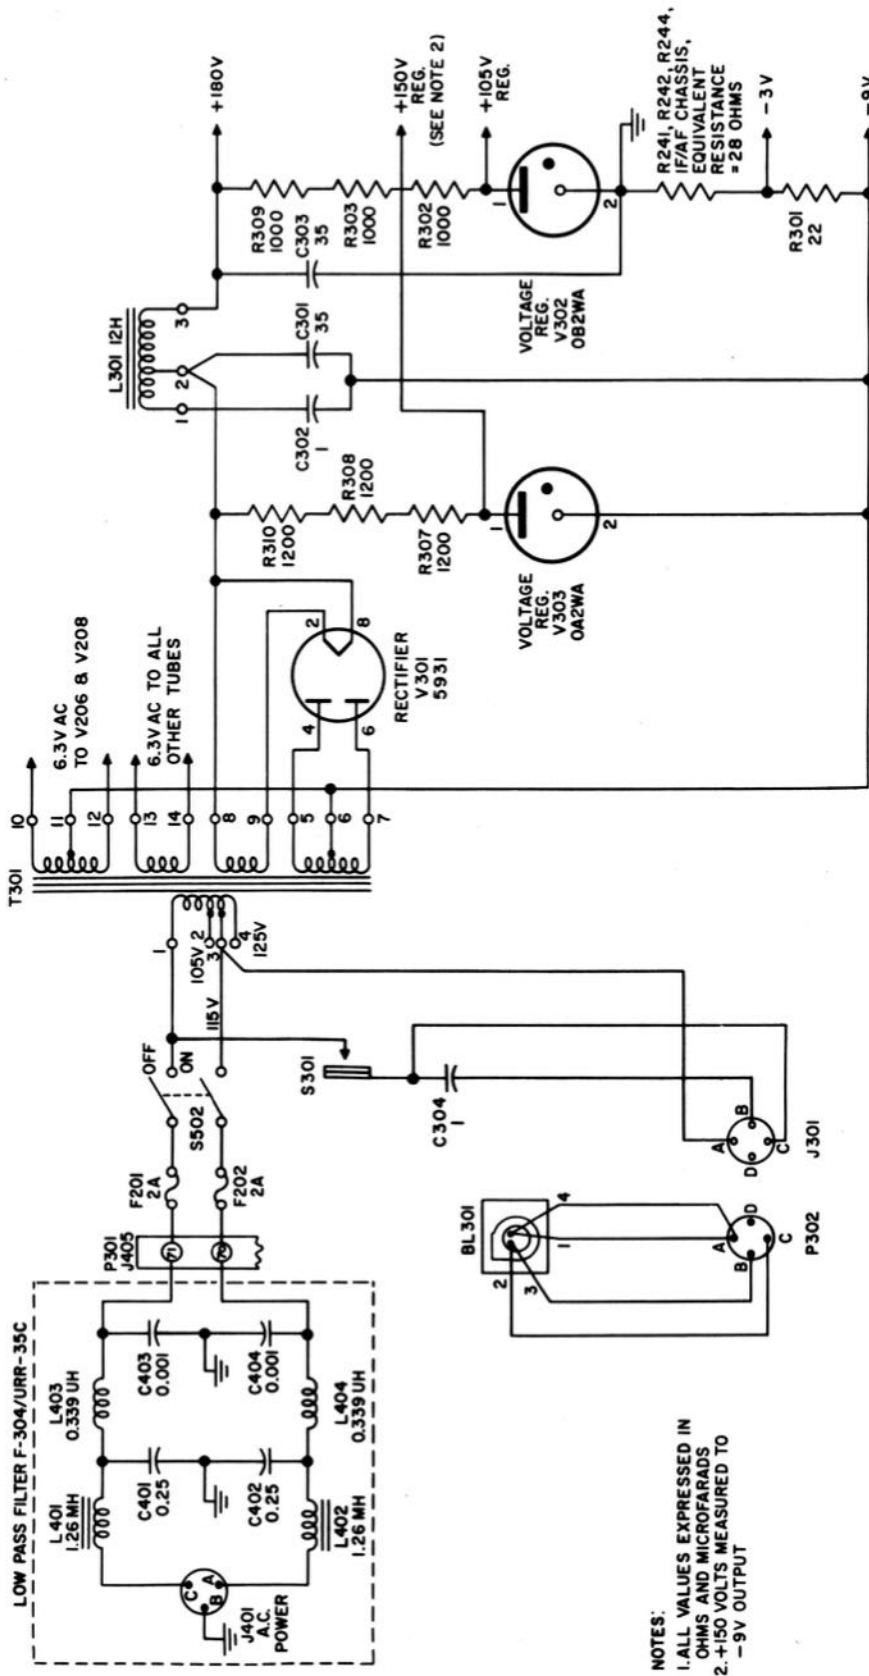

Figure 2-11. Power Supply, Simplified Schematic Diagram
i. **POWER SUPPLY.**—The power supply, located at the rear of the IF/AF chassis, contains the power transformer, T301, rectifier V301, voltage regulators V302 and V303, d-c filter and bleeder networks, and a blower unit. The simplified schematic diagram is shown in figure 2-11.